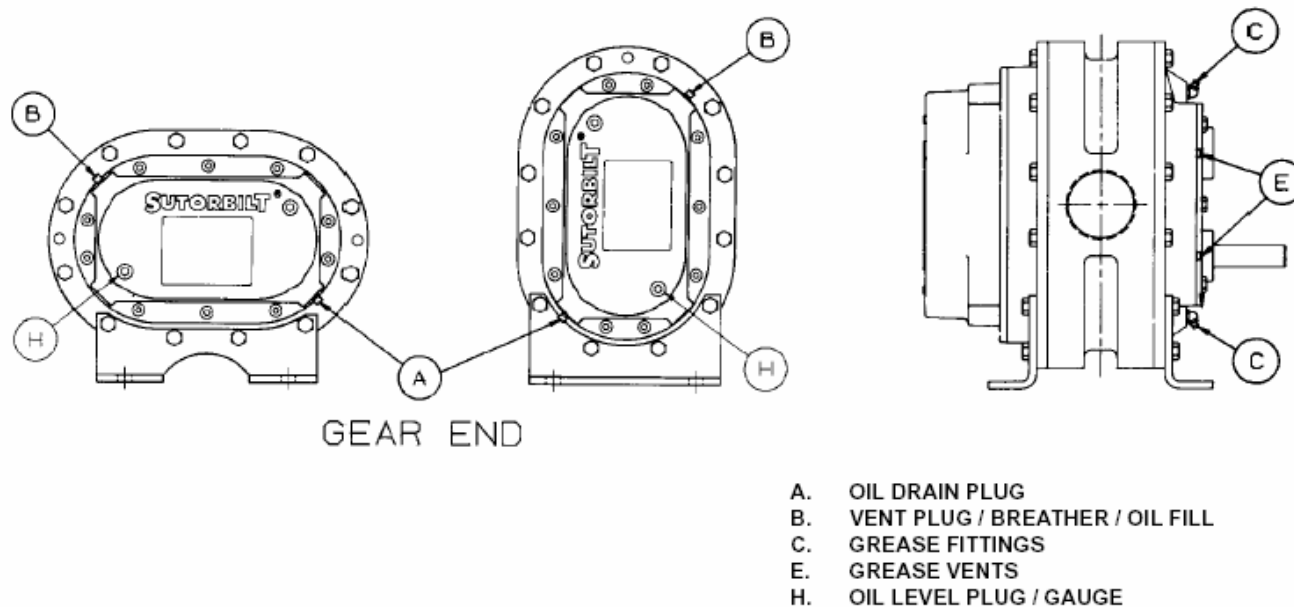

FIGURE 3-1 - LUBRICATION
When changing mounting configuration, it may be necessary to reposition vent plug (B), and drain plug (A). Refer to Figure 3-1, page 17, for correct location.
Re-grease bearings every 500 hours of operation. Lubricate each bearing through the grease fittings located at C in FIGURE 3-1 (2 places). When re-greasing, the old grease will be forced out of the vents (E in FIGURE 3-1). To prevent damage to seals, these vents must be open at all times.
Refer to FIGURE 3-1, page 17. Remove the oil level plug (H) and the square head vented oil fill plug (B) from the gear cover. Add oil to the gear case until oil drips out of the oil level hole (H). Secure plugs in their correct location.
Refer to FIGURE 3-1, page 17. Remove the breather (B) from the gear cover. Add oil to the gear case until oil reaches the center of the oil level gauge (H). Secure breather (B) in the gear cover.